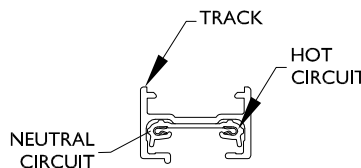

FIG. 4
A. ADAPTER: (BASIC TRACK), FIG.4
A. ADAPTATEUR (RAIL BASIC) *fig.4*